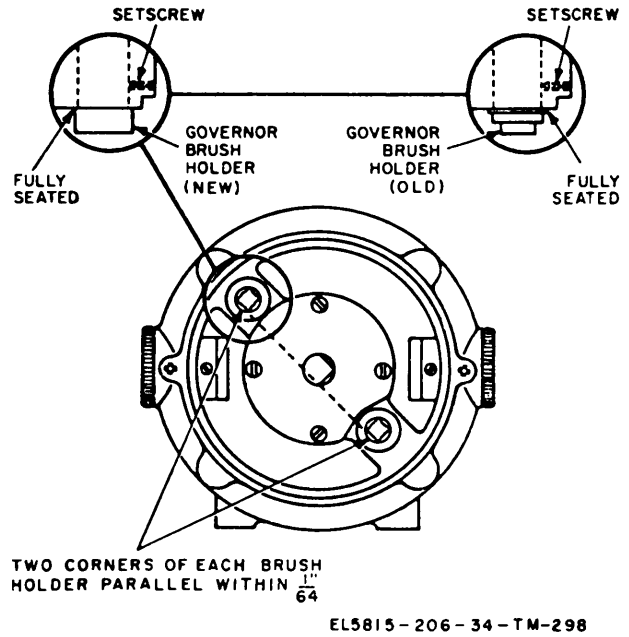

Figure 3-226. Motor-governor brush holder adjustment.
(fig. 3-226)
- (1) The governor brush holders should be fully seated.
- (2) Two side surfaces of the square hold in each governor brush holder should be aligned (within 1/64 inch) with the same surfaces of the other brush holder (fig. 3-226).